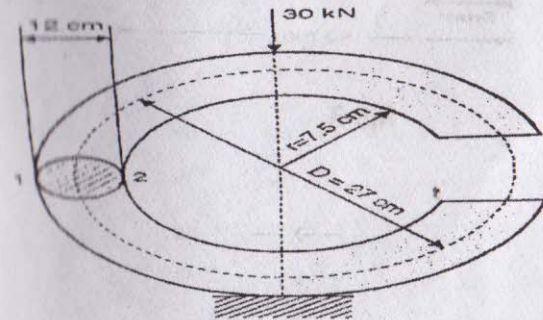

fig: 1
9. A ring carrying a load of 30 kN is as shown in fig.1. Calculate the stresses at section 1 and 2.